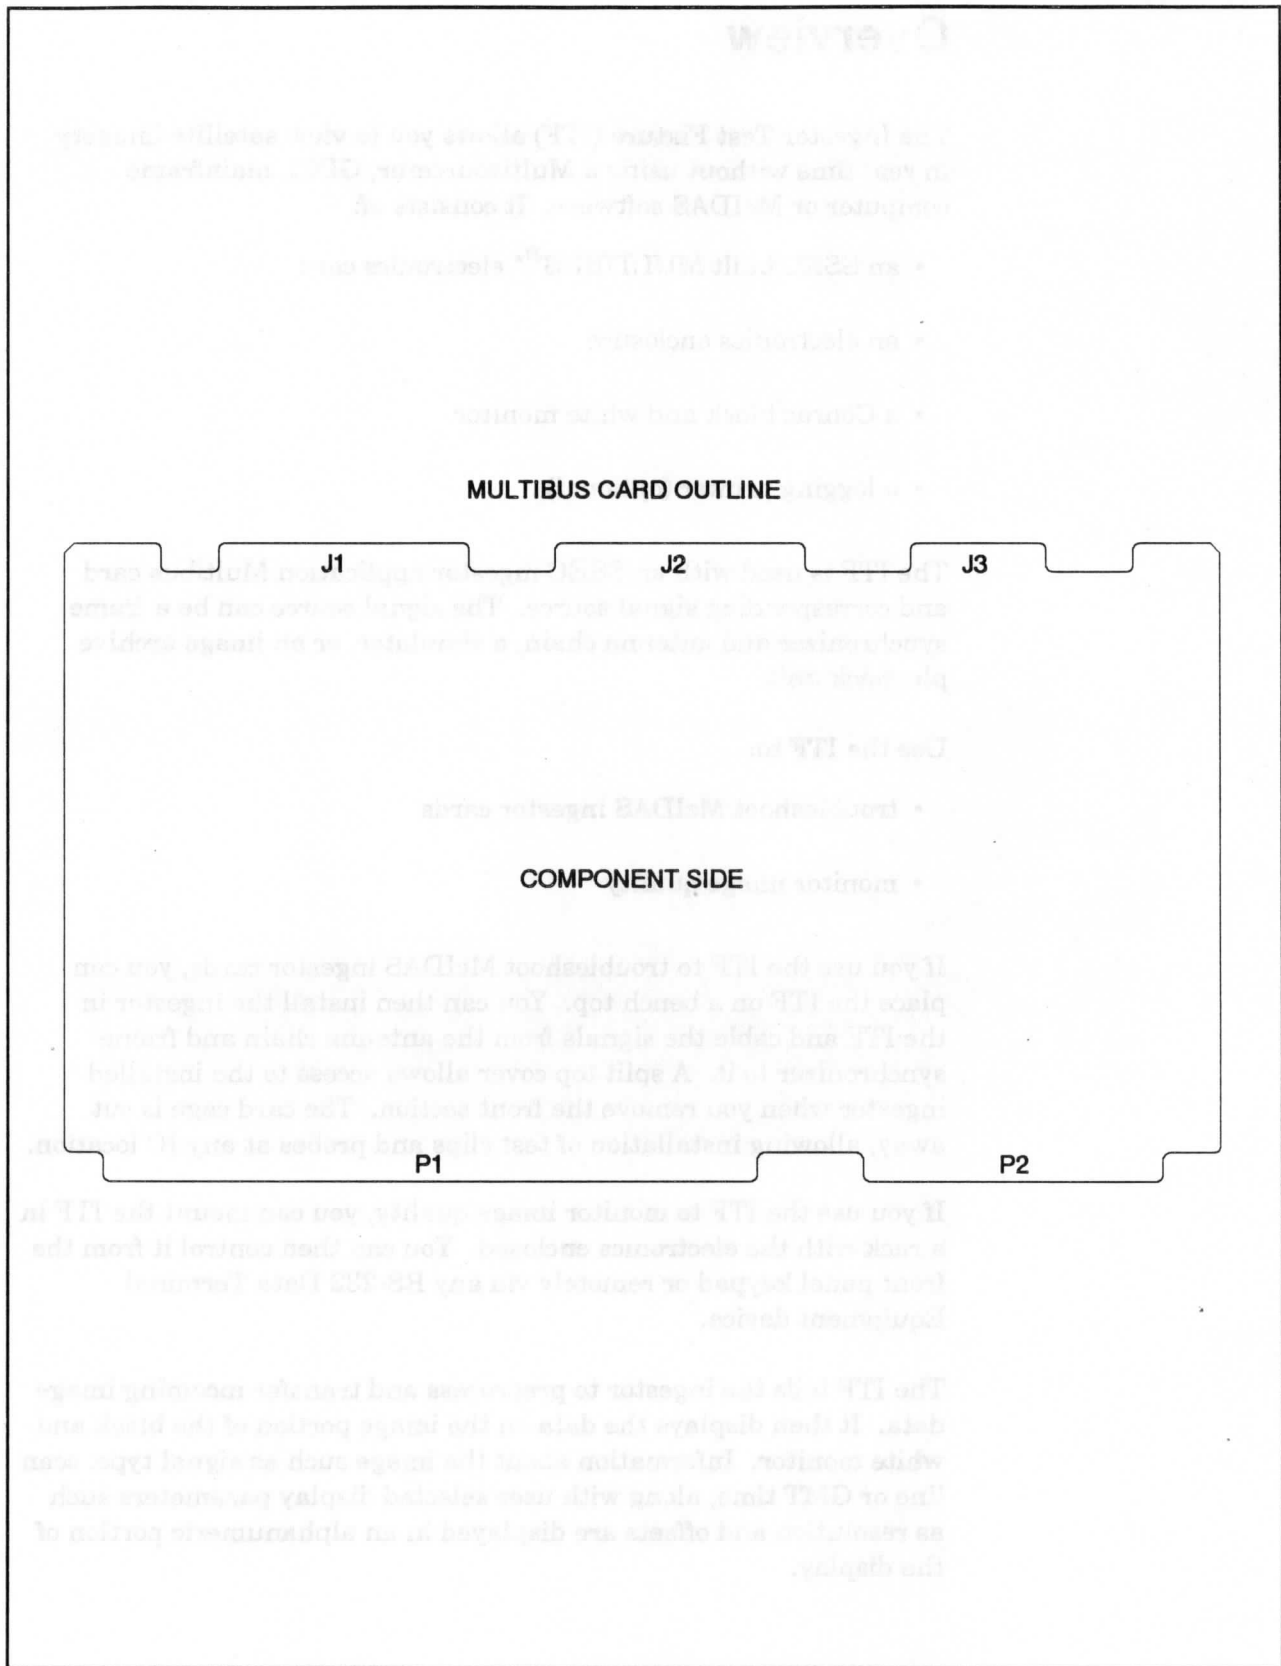

Figure 1. Component Side of the Multibus Card
3. Insert the Ingestor Test Fixture Multibus card in the bottom slot of the card cage with the component side up. See Figure 1 on the adjacent page.
4. The Multibus cards have five edge connectors. These are labeled on the card and shown in Figure 1. Connect the 50 pin edge connector labeled CONN 4 to the J1 connector on the Ingestor Test Fixture Multibus card.